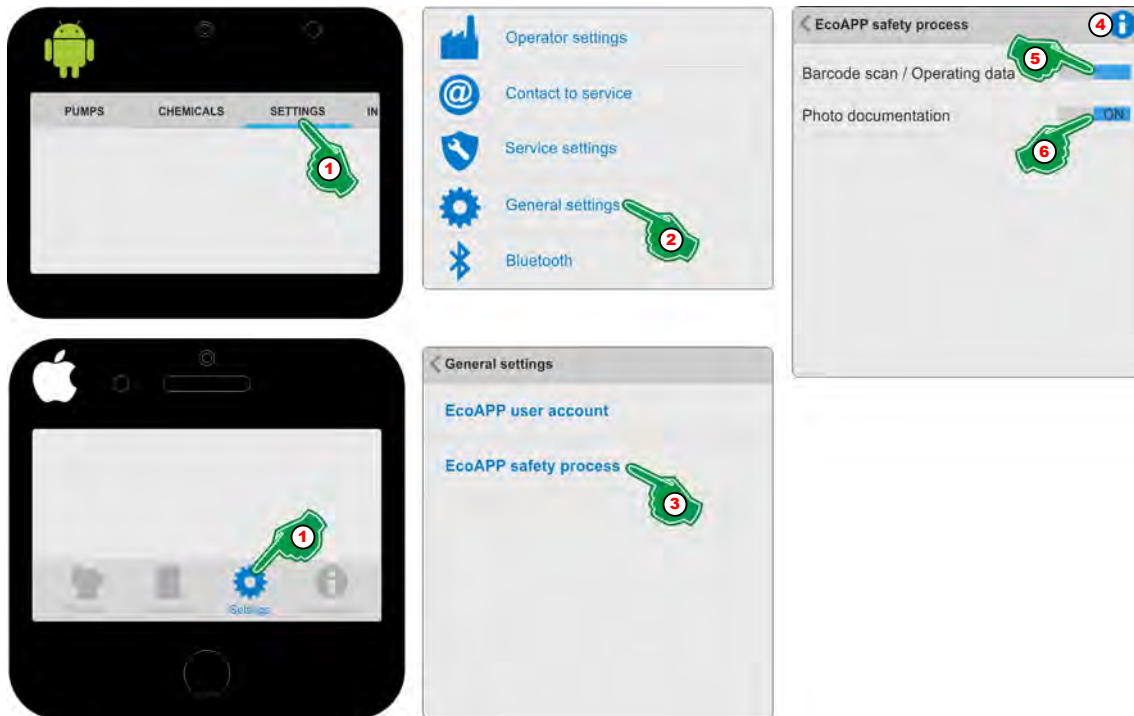

Fig. 55: Setting the safety process
1. ▶ Select [Settings] (Fig. 55, Pos. 1).
2. ▶ Select [General settings]  (Fig. 55, Pos. 2).
3. ▶ Select [EcoAPP safety process] (Fig. 55, Pos. 3).
4. ▶ With the selection of the [Info]  (Fig. 55, Pos. 4), the symbol display will be:
5. ▶ Choose the 'photo documentation,' (Fig. 55, Pos. 5) to ON .
6. ▶ Choose the 'Barcode Scan / Operating data' (Fig. 55, Pos. 6) to ON .